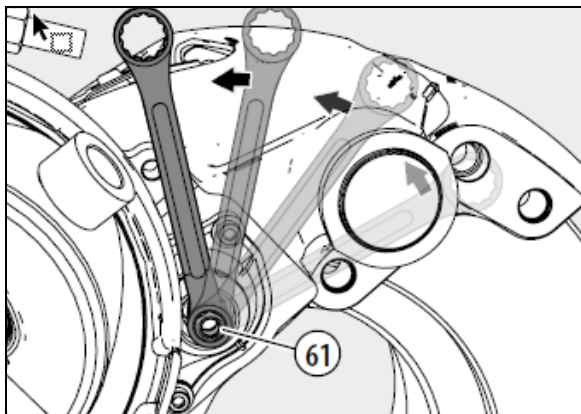

FIGURE 85: TURN ADAPTER 3 CLICKS ANTICLOCKWISE
14. Turn the adjuster with adapter (61) **3 clicks** anticlockwise (increasing the air gap) (see Figure 85).
15. As a visual aid, position a ring spanner or socket onto the adjuster (including Adapter (61)) as shown. Apply the brakes 5 to 10 times, the spanner or socket should turn clockwise (viewed from actuator side) in small increments if the adapter is functioning correctly (see Figure 85 and note below).